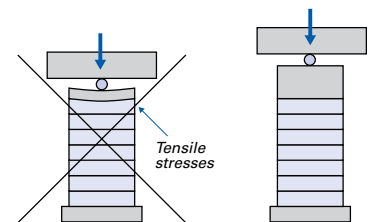

Fig. 58: Proper dimensioning of the end pieces in the case of point contact
- ▶ If a point load is applied to the end piece of the actuator: Dimension the end piece so that its thickness corresponds to half the cross-sectional dimension in order to prevent tensile stresses on the actuator. (fig. 58)